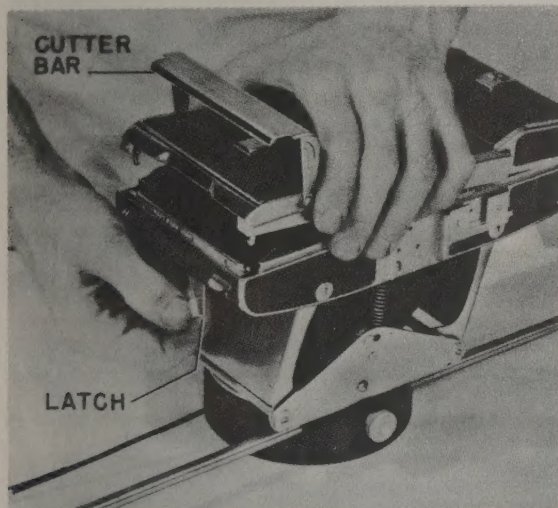

Figure 7 - Opening Camera Back
LOADING CAMERA. (See Figures 7 thru 11.)
A. Lay camera face down, with handle to your left. Lift the cutter bar and open back by swinging the latch all the way down and over. Dust the camera and make sure the two steel rollers are clean. Use a damp cloth to remove any hardened particles. See figure 7.